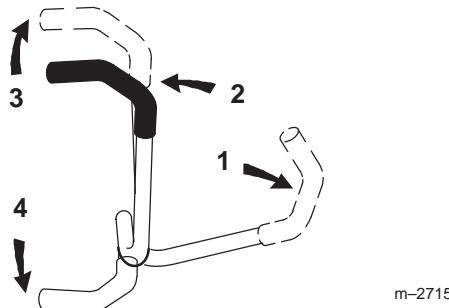

Figure 16
3. To go forward, slowly push the motion control levers forward (Fig. 16).
To go straight, apply equal pressure to both motion control levers (Fig. 16).
To turn, move the motion control lever toward neutral in the direction you want to turn (Fig. 16).
2. To go backward, slowly pull the motion control levers rearward (Fig. 16).
To turn, release pressure on the motion control lever toward the direction you want to turn (Fig. 16).